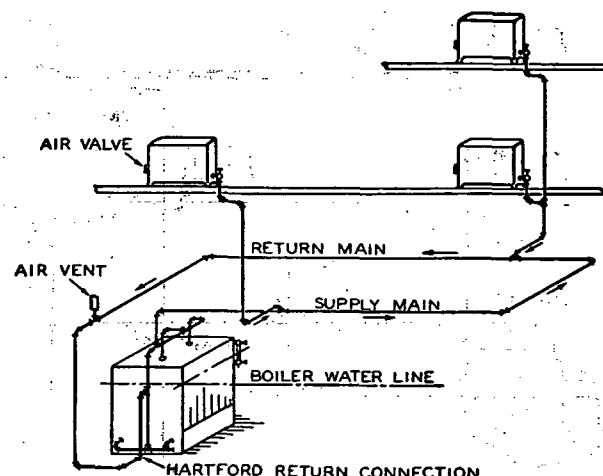
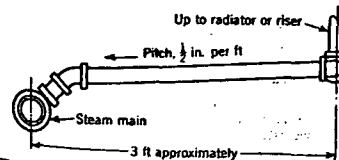
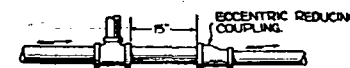

FIG. 3. TYPICAL UP-FEED GRAVITY ONE-PIPE AIR-VENT SYSTEM
FIG. 4. TYPICAL STEAM RUNOUT WHERE RISERS ARE NOT DRIPPED
FIG. 5. METHOD OF CHANGING SIZE OF STEAM MAIN WHEN RUNOUTS ARE TAKEN FROM TOP
1. Up-feed one-pipe systems where the radiators and other heating units are located above the supply mains. The mains in this instance convey both steam and condensate. Such a system is illustrated in Fig. 3. Typical connections to radiator or risers are illustrated in Fig. 4, and method of changing sizes of mains in Fig. 5.